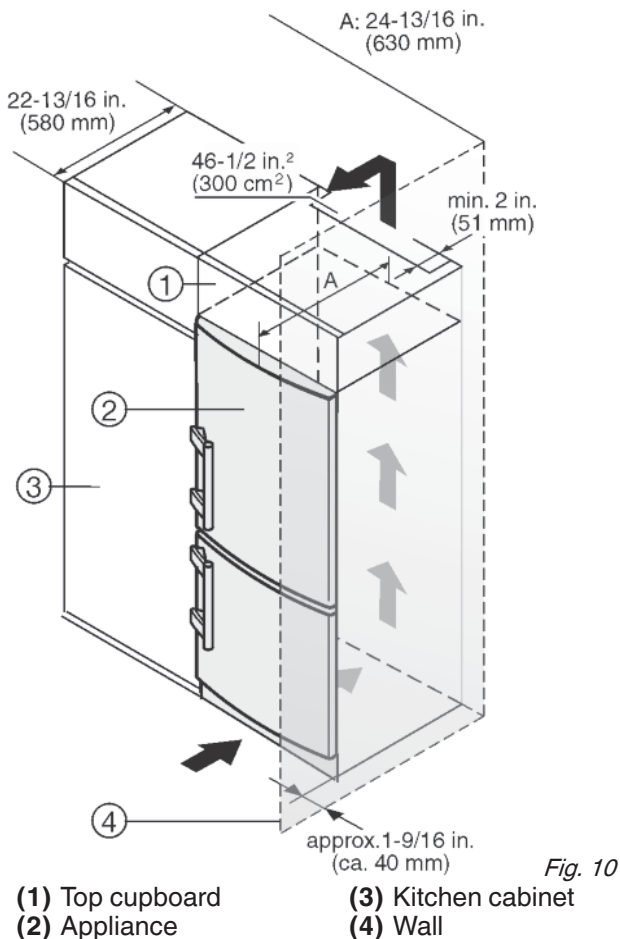

Fig. 10
The appliance can be built into kitchen cabinets. To bring the appliance Fig. 10 (2) up to the height of the fitted kitchen units, a top cupboard Fig. 10 (1) can be added above the appliance.
When converting kitchen cabinets (max. depth 22-13/16 " (580 mm)) the device can be set up directly beside the kitchen cabinet Fig. 10 (3). The appliance door projects (34 mm) at the side and in the center of the appliance (50 mm) from the front of the kitchen cabinet. This allows it to open and close properly.
If the appliance is installed with the hinges next to a wall Fig. 10 (4), the gap between the appliance and the wall must be at least 1-9/16 " (40 mm). This is how far the handle protrudes when the door is open.